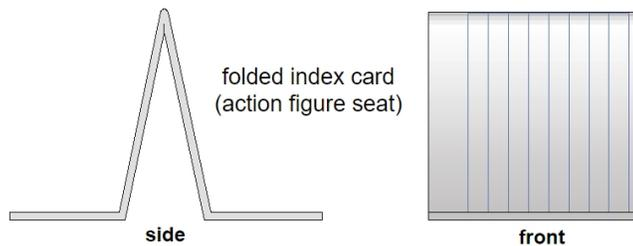

Figure 2
- b. If your car does not have a seat for a crash dummy, fold another card in half. Fold each side up as shown in Figure 2. Tape this folded card to the car to serve as a seat for the crash dummy.